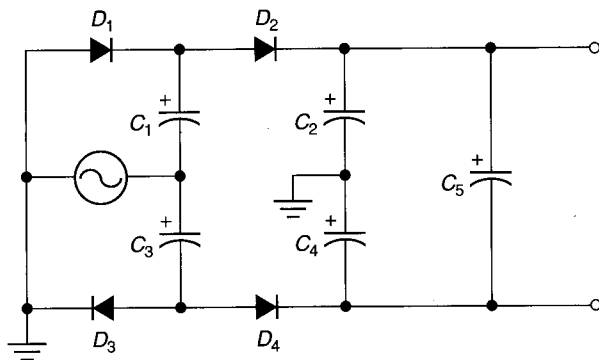

FIGURE 4.52
44. Schematics can be drawn in many different ways. For example, the circuit shown in Figure 4.52 is actually a voltage quadrupler. However, one of the components has accidentally been reversed. Which one is it? Explain your answer.